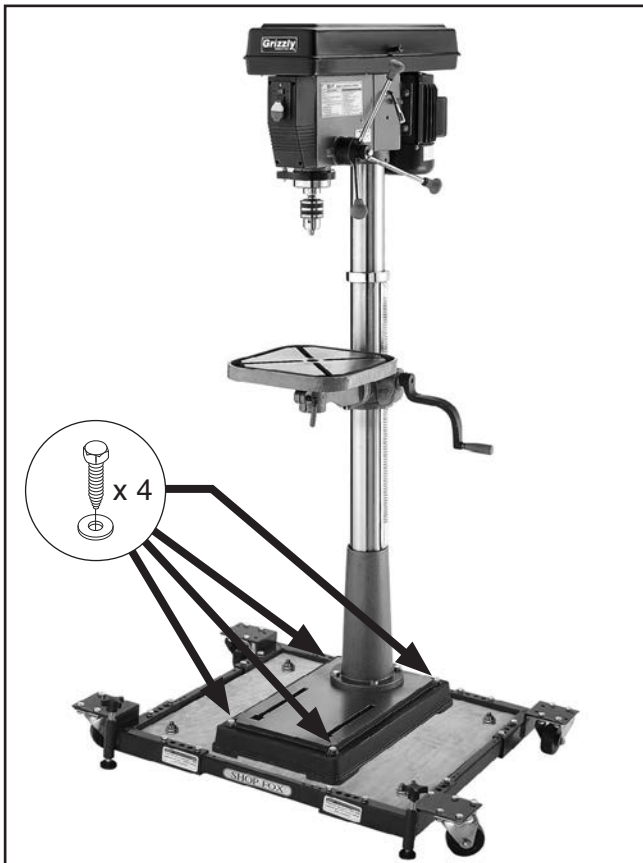

Figure 11. Drill press bolted to mobile base, using lag bolts and flat washers.
9. Mount drill press to base plate with lag bolts and flat washers, as shown in **Figure 11**, or with through bolts, flat washers, and hex nuts.